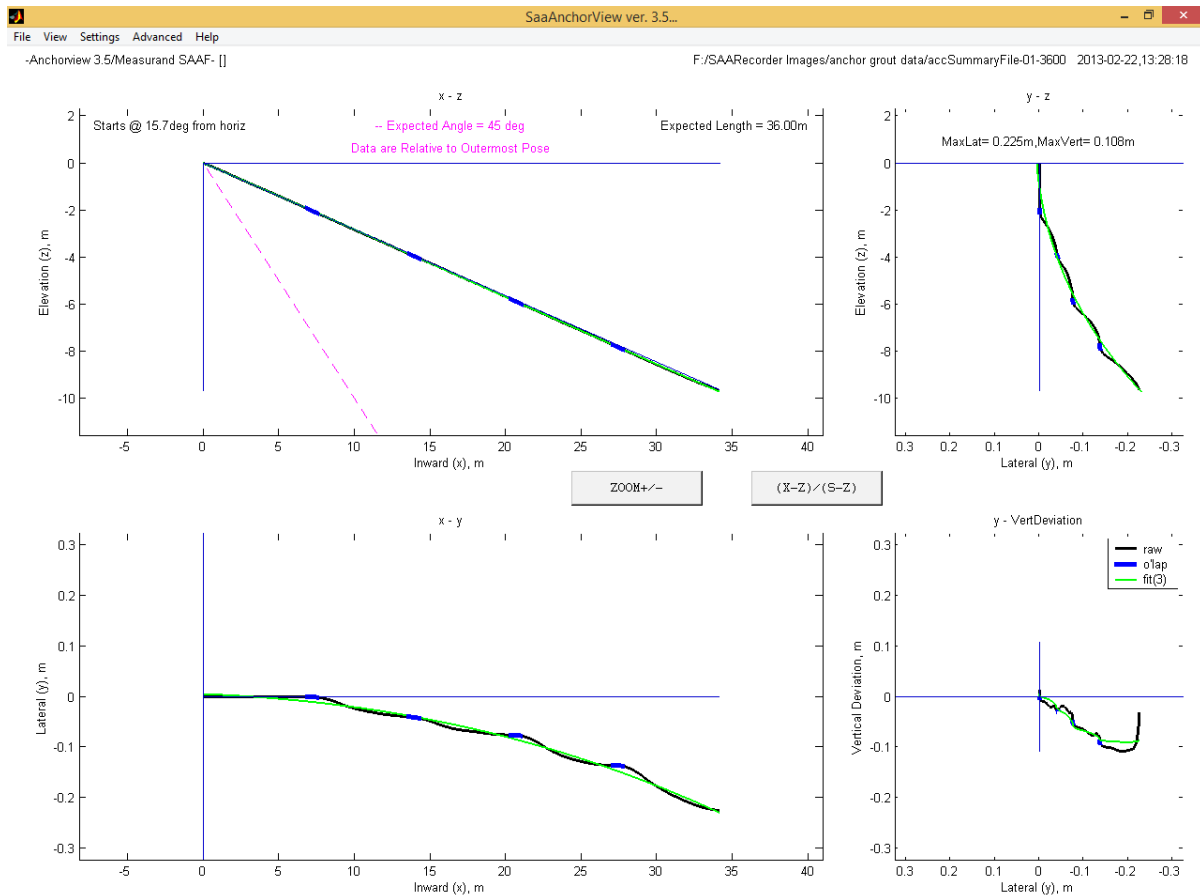

Figure 6.35: 'Anchor View' application opened while saving Anchor Grout Data.
5. The Anchor View application will open, see **Figure 6.35**.
- Before clicking the '(X-Z)/(S-Z)' button, see **Figure 6.35**.